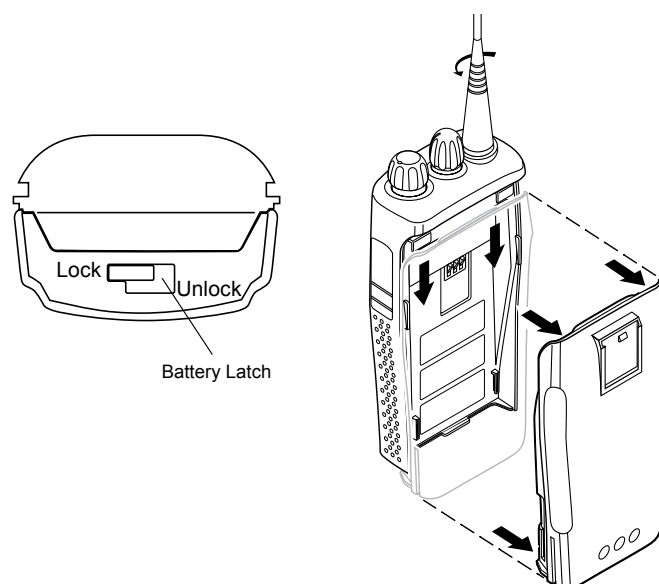

Figure 8-1. Battery Removal
2. Remove the battery (Figure 8-1):